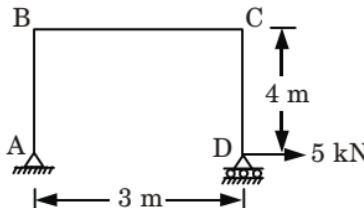

Fig. 4.
- 3. a.** Determine the horizontal displacement of the roller end D of the portal frame shown in Fig. 4.  $EI$  is 8000 kN-m $^2$  throughout.